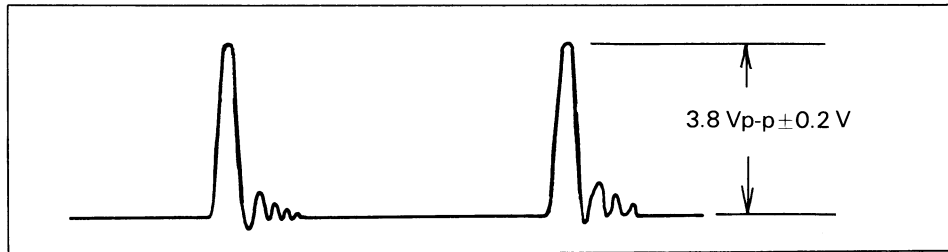

Fig. 5-64. Gate Pulse
2. Verify that the output waveform is as shown in Fig. 5-64. Refer to Fig. 5-64.